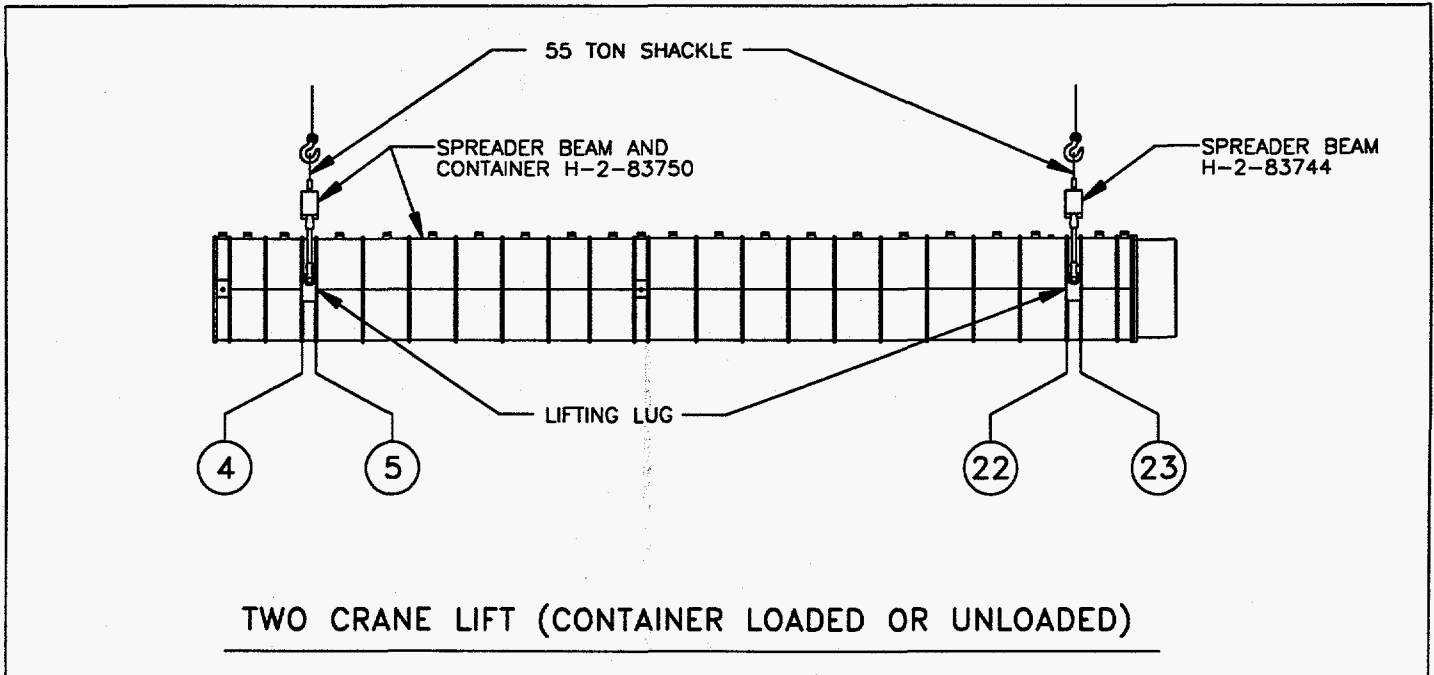
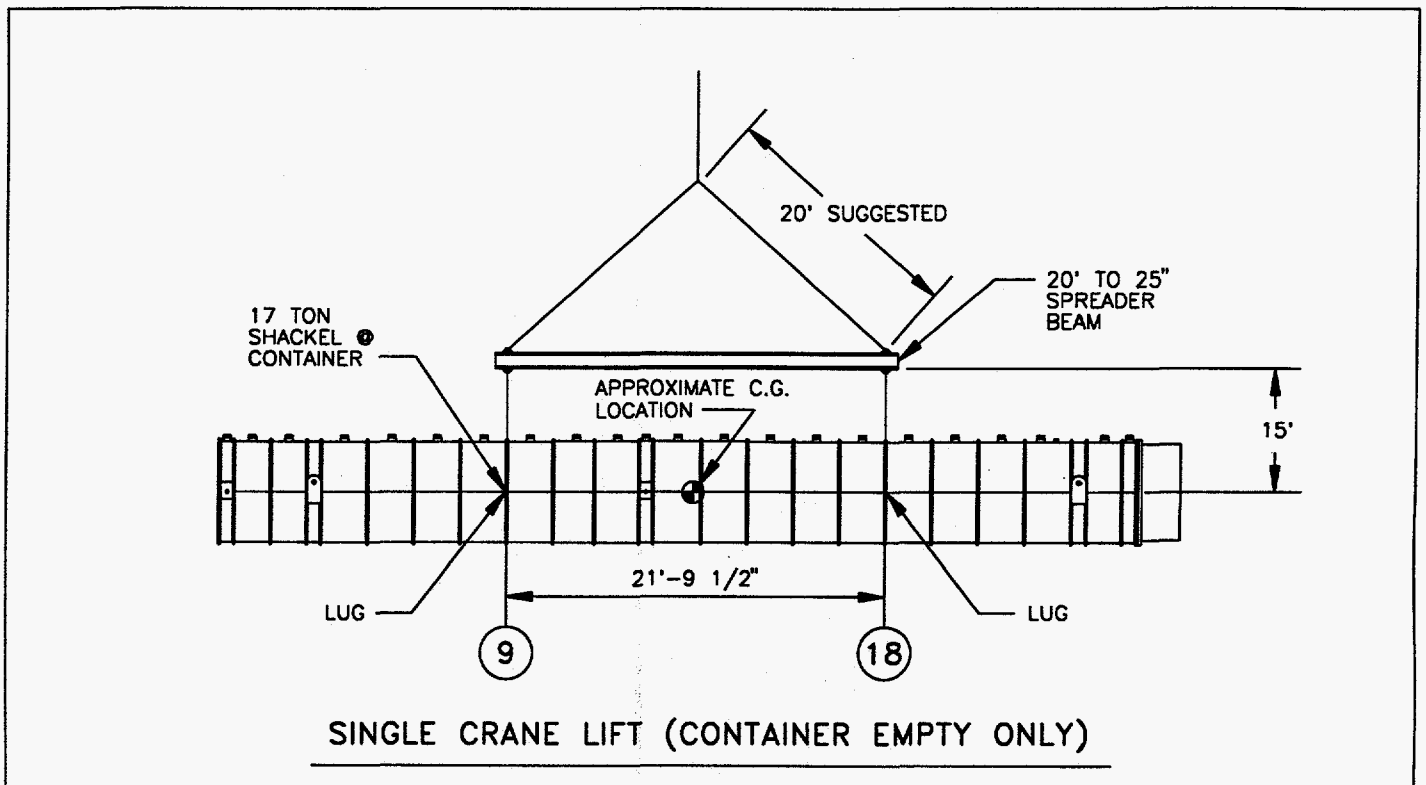

Figure 5, Two Crane Lift
Figure 6, Single Crane Lift
- 1 Place the container into position over the strongback using a two crane pick (Figure 5, page 14) or a 20 to 25 foot spreader bar minimum (Figure 6, page 14).
NOTE: The spreader bar method (Figure 6, page 14) may only be used when the container is empty. The two crane method (Figure 5, page 14) must be used when the container is loaded with the pump, shielding shot, or both.